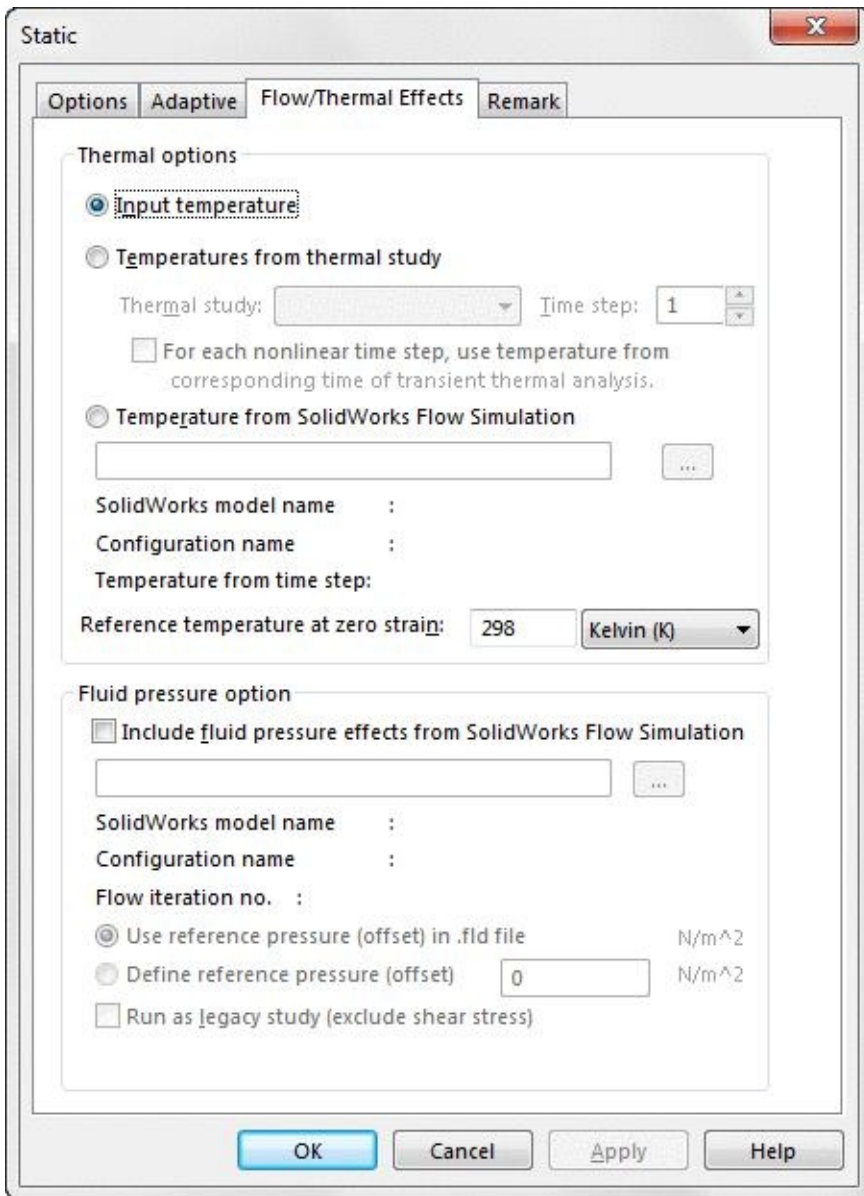

Figure-58. Flow Thermal Effects tab of Static dialog box
- Click on the **Flow Effects** or **Thermal Effects** button from the **External Loads Advisor** drop-down. A dialog box will be displayed with the **Flow/Thermal Effects** tab selected; refer to Figure-58.